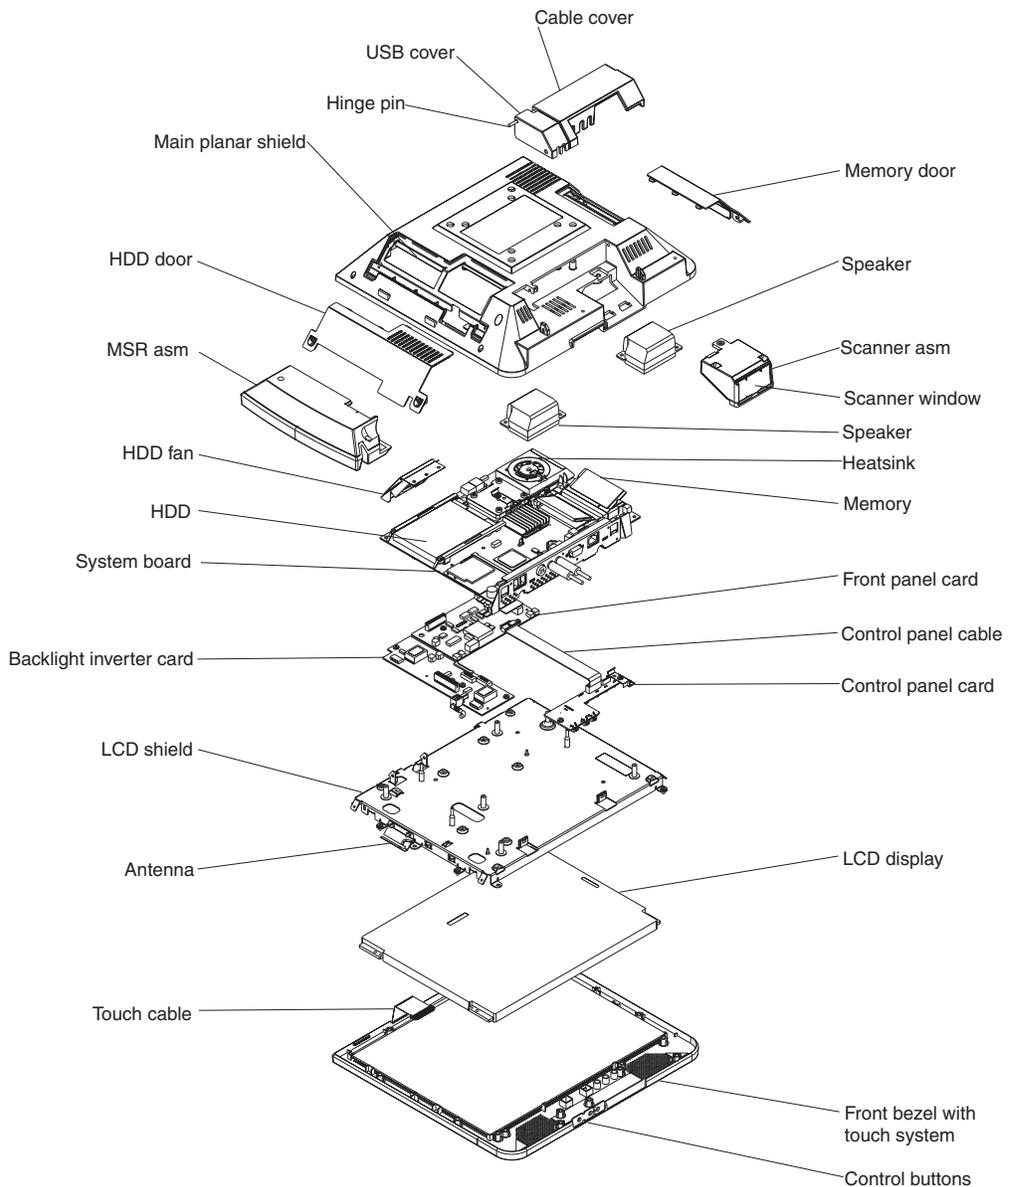

Figure 15. Exploded view of the IBM 4836 assembly
Figure 15 on page 28 summarizes the field replaceable parts of the IBM 4836 assembly. The part number associated with each FRU is located in Appendix A, “Field-replaceable units.”
2. Remove the hinge pin (see Figure 15 on page 28) and lift to remove the covers.